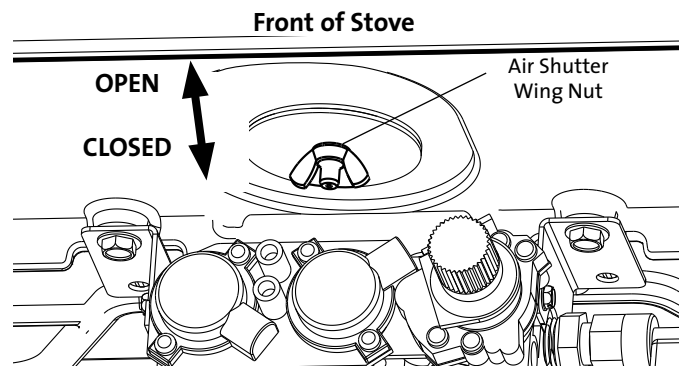

Figure 7.1. The Air Shutter stem is accessed from within the controls compartment.
3. Open the Controls Compartment Door under the firebox. Loosen the Air Shutter wing nut and push it back far as it will travel. See fig. 7.1.
14. **Adjust the Air Shutter.** Fig. 7.1.